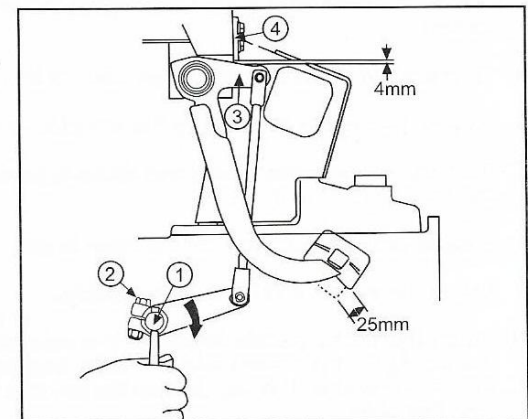

Fig. 88
1. Insert a tommy bar in the hole at the end of the clutch operating shaft (1, Fig. 88) and rotate it clockwise until resistance is felt.
2. Slacken the clamp bolt (2) securing the arm to the shaft and set the distance between the lever (3) and the stop plate (4) to 4 mm (5/32 in). This will give a free pedal movement of 25 mm (1 in) at the pad.
3. Retighten the clamp bolt (2). Press the clutch pedal down through its full travel five times, recheck the free travel and readjust if necessary.